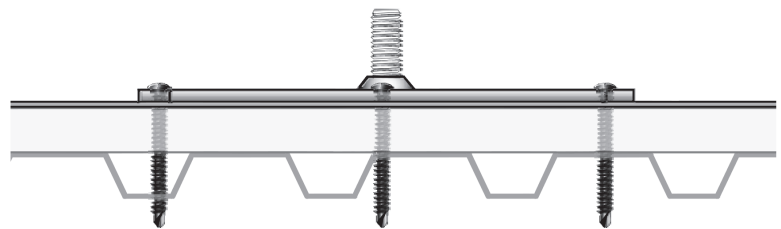

Figure 7.
- Choose the appropriate fastener to work in conjunction with the given roof construction. #14 x 3" Heavy Duty Roof Fasteners have been included with this kit to cover the majority of roof constructions. If a longer fastener is required, use only OMG brand or equivalent. Be sure the fasteners are long enough to penetrate the deck. OMG Heavy Duty Roof Fasteners for concrete and other decks will need to be determined by your installer or architect. See Figure 7.